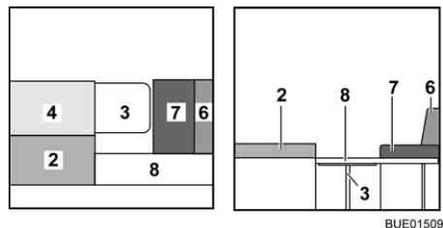

Fig. 144 During conversion
- Place the back cushion (Fig. 144,4) next to the seat cushion (Fig. 144,2).
- Unfold the supports of the bed extension (Fig. 144,8) and hang the bed extension from the holders on the bench seat.